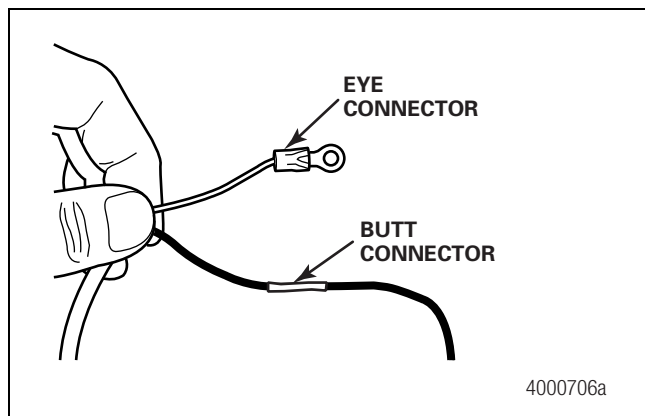

Figure 2.67
- In the trailer seven-way box, connect the supplied eye connectors to the white wires, one coming from the indicator light, one coming from the control box. Figure 2.67.
- In the trailer seven-way box, use the supplied butt connector to connect the black wire from the indicator light to the black wire from the control box. Figure 2.67.